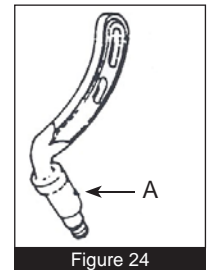
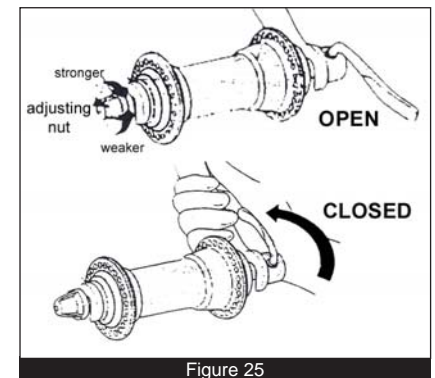

Figure 24
Figure 25
an eccentric bump, a cam on it, (A in Figure 24) which is a powerful lever. This lever amplifies the turning force made by your hand as you force the quick release lever to the closed position (Figure 25).
(Figure 25) which is when the lever is pointed toward the front of the Buddy Bike. Remove the front wheel. Punch down on the tire if necessary.
**To Install the Front Wheel:** Replace the front wheel in the fork dropouts. Be sure the tire is centered between the fork blades (Figure 28). Hold the wheel in place while you tighten the quick release lever all the way to the closed position (Figure 25). Check quick release tightness. As you move the quick release lever toward the rear of the bike, past the 12 o'clock position you should feel increasing pressure. You should have a red pressure mark on the palm of your hand from the force needed to close this lever all the way. If you do not feel this pressure, readjust the quick release mechanism as follows:
**Adjust the Quick Release:** Open the quick release lever past the 12 o'clock position to around the 4 o'clock more open position. Hold the adjuster nut with one hand and turn the quick release lever counter clockwise as far as possible. Do not use any tool on this adjuster nut. Use only your fingers! Turn the quick release lever all the way to the closed position (Figure 25). Again, you must feel considerable turning resistance as the lever moves past the 12 o'clock position to the closed position.